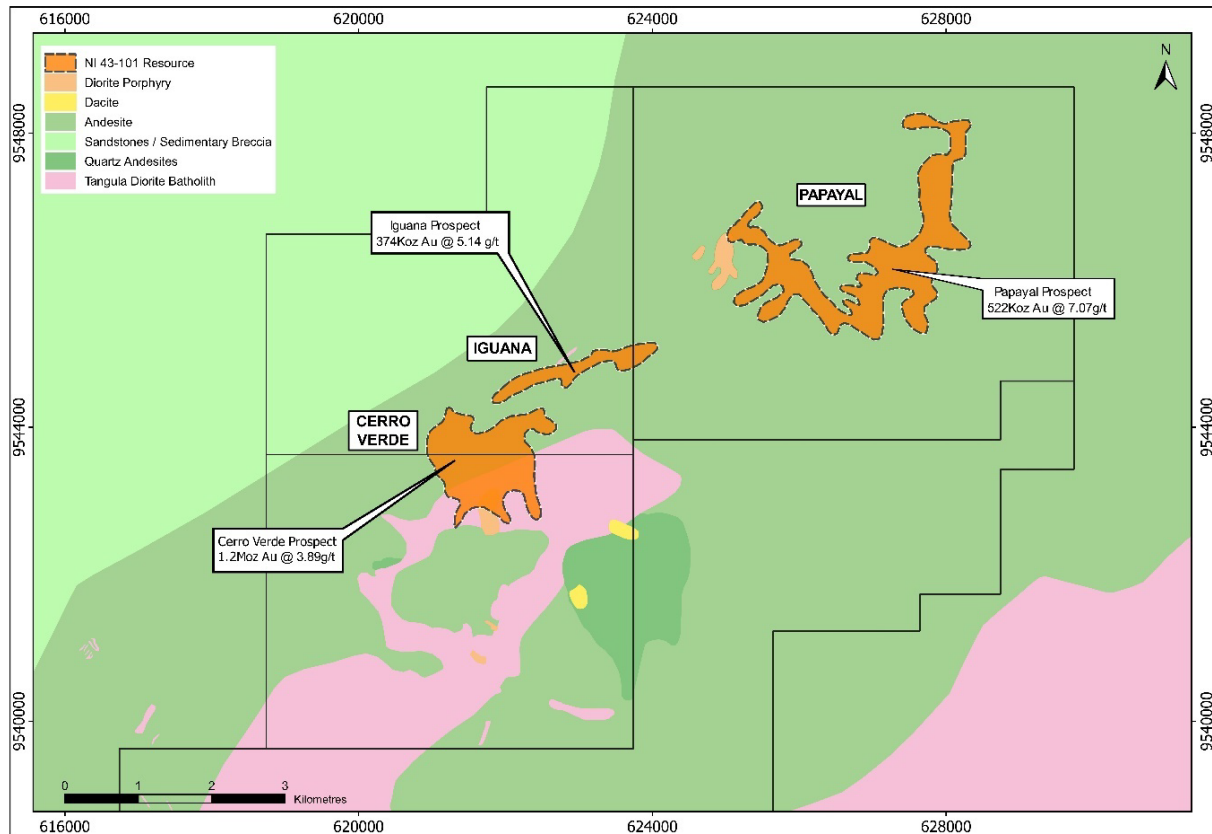

Figure 1: Location of Cerro Verde Prospect within overall Dynasty Project
The Dynasty Gold Project is an advanced stage exploration project comprising five (5) contiguous titles and 139km² in area. Three of these concessions received Environmental Authorisation in 2016 and are fully permitted for exploration and small-scale mining. Exploration works at the Dynasty Gold Project have outlined an extensive zone of epithermal veining over a nine (9) kilometres strike and over one (1) kilometre in width. Previous explorers had estimated a Canadian NI 43-101 resource estimate (referred to as a Foreign Resource) of 14.4 million tonnes at 4.5g/t gold and 36g/t silver. This resource estimate was compiled using a dataset of 1,160 trenches and 26,733 metres of diamond core. It was estimated by polygonal methods which are not yet considered JORC 2012 compliant. The foreign resource estimation was compiled using a dataset of 1,160 trenches and 26,733 metres of diamond drill core and essentially breaks the Project's 9 kilometres of the strike into three main prospects: Papaya; Iguana; and Cerro Verde (*refer to Figure 1*). The information in this announcement relating to Mineral Resource Estimates for the Dynasty Gold Project is a foreign estimate and is not reported in accordance with the JORC Code. A competent person has not done sufficient work to classify this foreign estimate as a mineral resource in accordance with the JORC Code and it is uncertain that following further exploration work this foreign estimate will be able to be reported as a mineral resource in accordance with the JORC Code (*refer to ASX announcement dated 30 April 2020 and Notes to Foreign Mineral Resource Estimate below*).